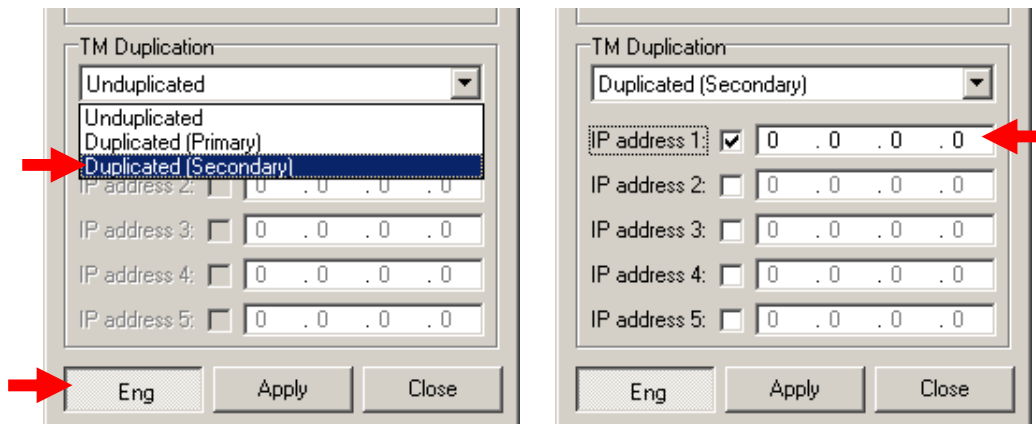

Figure 64. Setting for Duplicated Secondary.
1. Open the TM Status panel and select the 'Network' button (see **Section 4.3 – Setting the TM IP Address**). The 'TM Network Setup' page shown below in part in **Figure 64** will open.